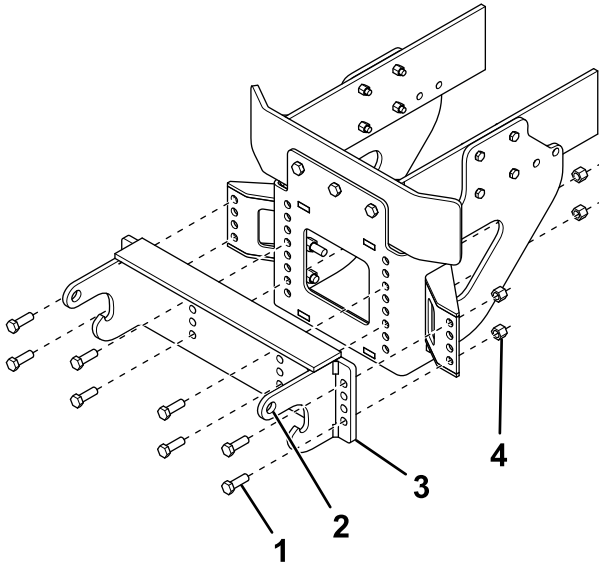

Figure 6
8. Secure the pushbeam to the side gussets and front plate using 8 bolts (1/2 x 1-1/2 inches) and 8 nuts (Figure 6).